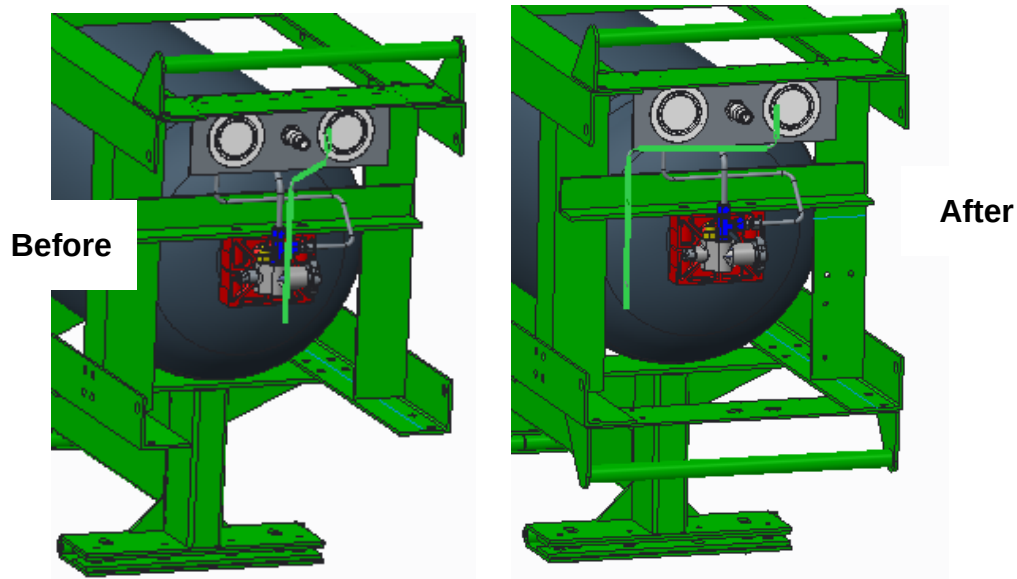

Figure 4. Remove and replace the tube from the regulator outlet to the low pressure gauge.
4. Remove the tube from the regulator to the low pressure gauge and replace it with the new tube regulator to low pressure gauge tube as shown in Figure 4.